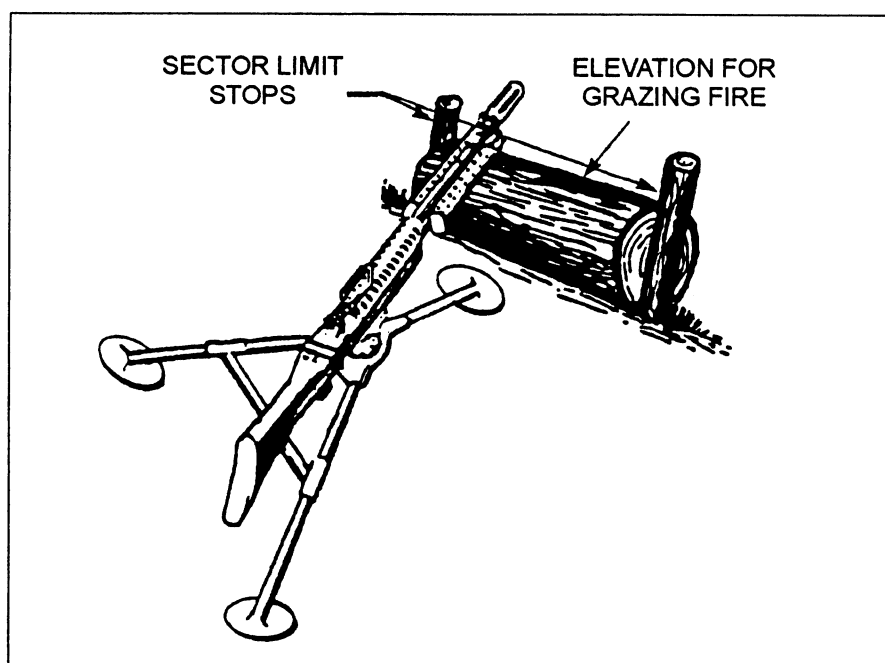

Fig 4-31. Horizontal log method
d. Horizontal log method. This technique is used to define sector limits and fields of grazing fire. The FPL would be located along one of the sector stakes. A log or board is placed between the sector stakes in such a way that the barrel will be at the proper elevation to obtain grazing fire across the front. In this case, the tripod is used, but not the T&E mechanism (see fig 4-31).